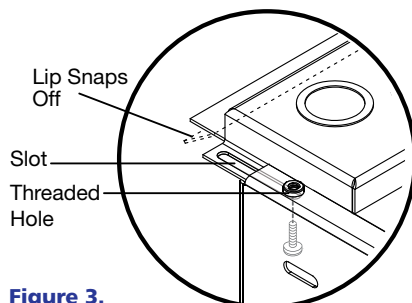
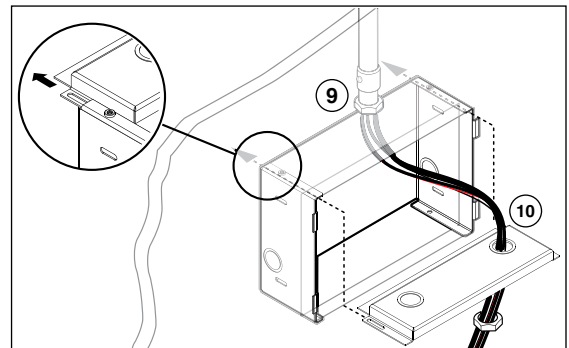

Figure 3.
Figure 2.
9. If required, secure one or more conduits to the knock-out holes in the endplate (see figure 2). Break off the lip on the leading edge of the endplate (see figure 3) to make it easier to maneuver the endplate with a conduit attached.
10. Slide the endplates into the gap between the back of the U-plate and the top flanges on the side of the U-plate (see the inset in figure 2). The endplate must pass the drywall so that the trailing edge can be pushed in behind it.
11. Secure the endplate to the U-plate, using the four provided screws. Insert the provided screw from inside the BB 710M, through the slot in the endplate and into the threaded hole in the top of the U-plate (see figure 3).